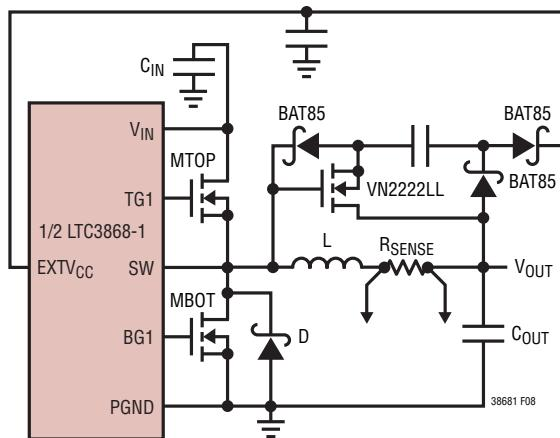

Figure 8. Capacitive Charge Pump for EXTV_{CC}
4. EXTV_{CC} Connected to an Output-Derived Boost Network. For 3.3V and other low voltage regulators, efficiency gains can still be realized by connecting EXTV_{CC} to an output-derived voltage that has been boosted to greater than 4.7V. This can be done with the capacitive charge pump shown in Figure 8. Ensure that $\text{EXTV}_{\text{CC}} < V_{\text{IN}}$.